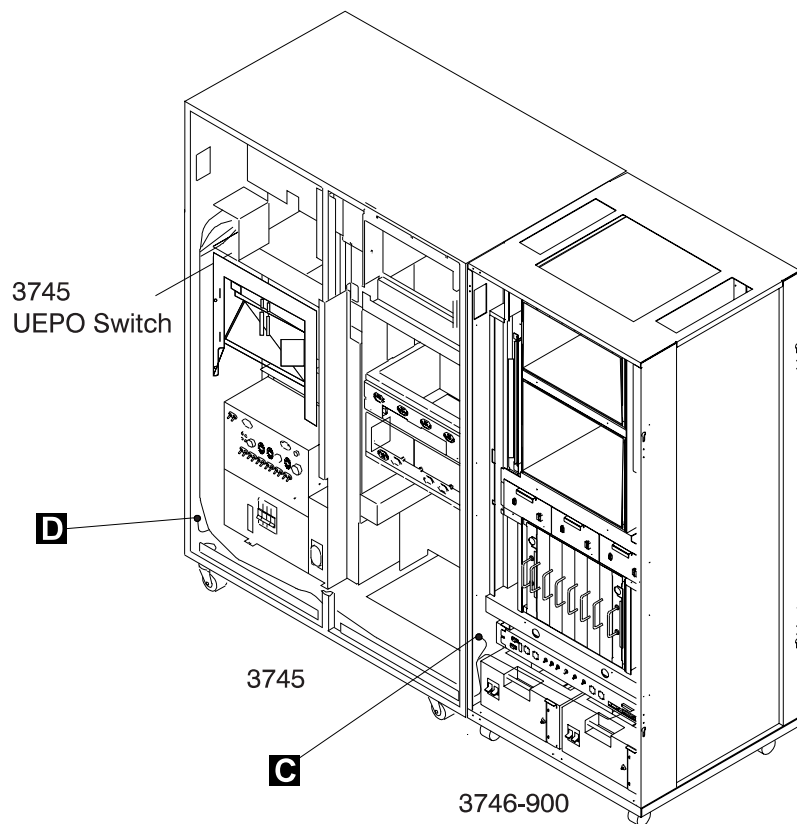

Figure 0-2. 3745 Model 21A to 61A/3746-900 UEPO Cable Routing
- To the 3745 Models 21A to 61A via the UEPO cable (see Figure 0-2 on page xxvi).